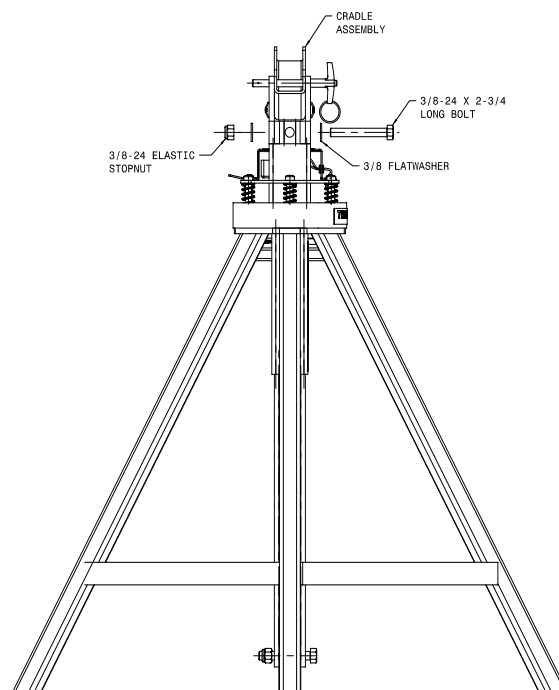

FIGURE 3
2. Fasten cradle assembly to extension tube with one (1) 3/8 - 24 x 2 ¾ inch hex head bolt, 3/8 inch flatwasher, and 3/8 - 24 elastic stopnut. **reference Figure 3.**